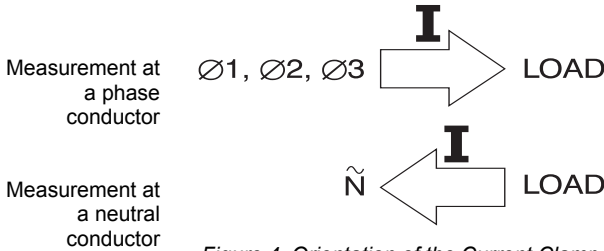

Figure 4. Orientation of the Current Clamp
5. Make sure that the arrow mar toward the load for phase me load (toward the source) for n Figure 4.)